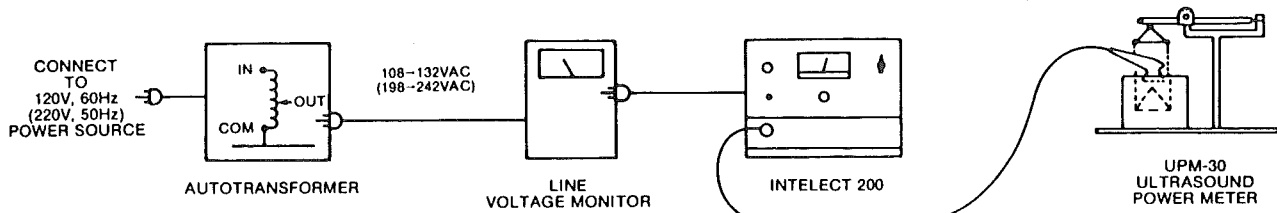

FIGURE 1
C. Connect the test set-up of Figure 1.